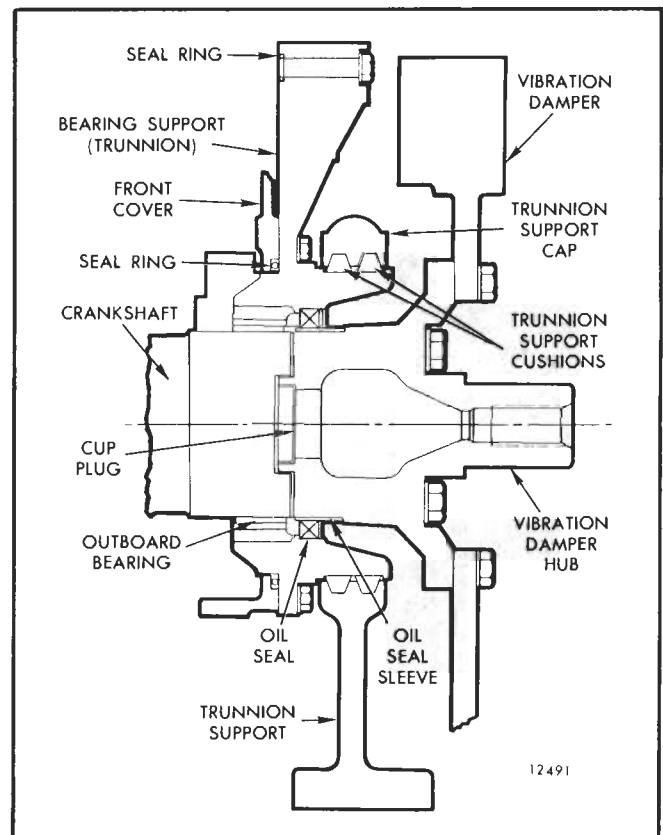

Fig. 2 - Outboard Bearing Support (Trunnion) Details
1. Install a new large seal ("O" ring) and six new small seal rings on the back side of the bearing support (trunnion), Fig. 2.